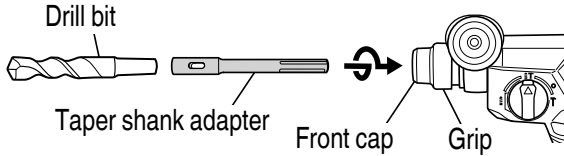
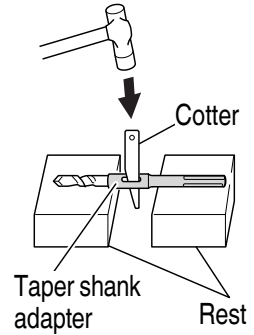

Fig. 31
Fig. 32
- (1) Mount the taper shank adapter to the rotary hammer. (**Fig. 31**)
- (2) Mount the drill bit (taper shank) to the taper shank adapter. (**Fig. 31**)
- (3) Turn the switch ON, and drill a hole in prescribed depth.
- (4) To remove the drill bit (taper shank), insert the cotter into the slot of the taper shank adapter and strike the head of the cotter with a hammer supporting on the rests. (**Fig. 32**)